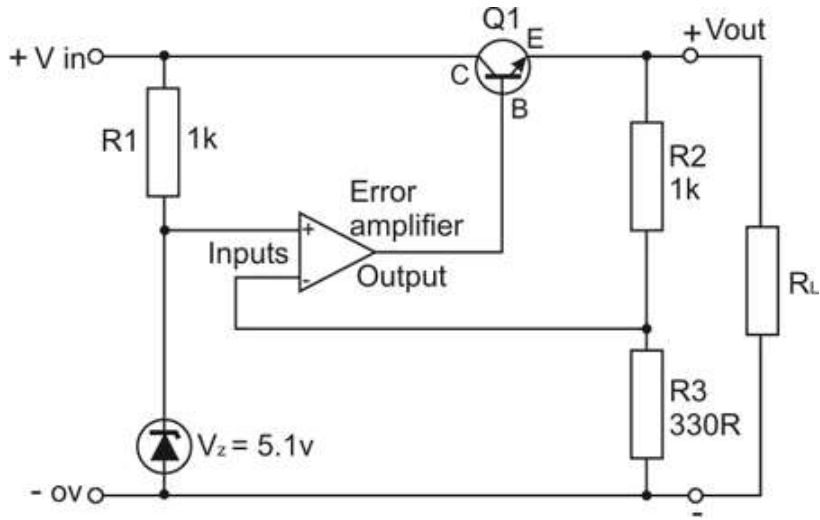

Figure 4.
1. Calculate the output voltage of the regulator circuit shown in Figure 4.
2. Refer again to Figure 4. Q1 requires a minimum voltage of 1V between the collector and emitter. Calculate the minimum value of the unregulated input voltage (V_{in}).